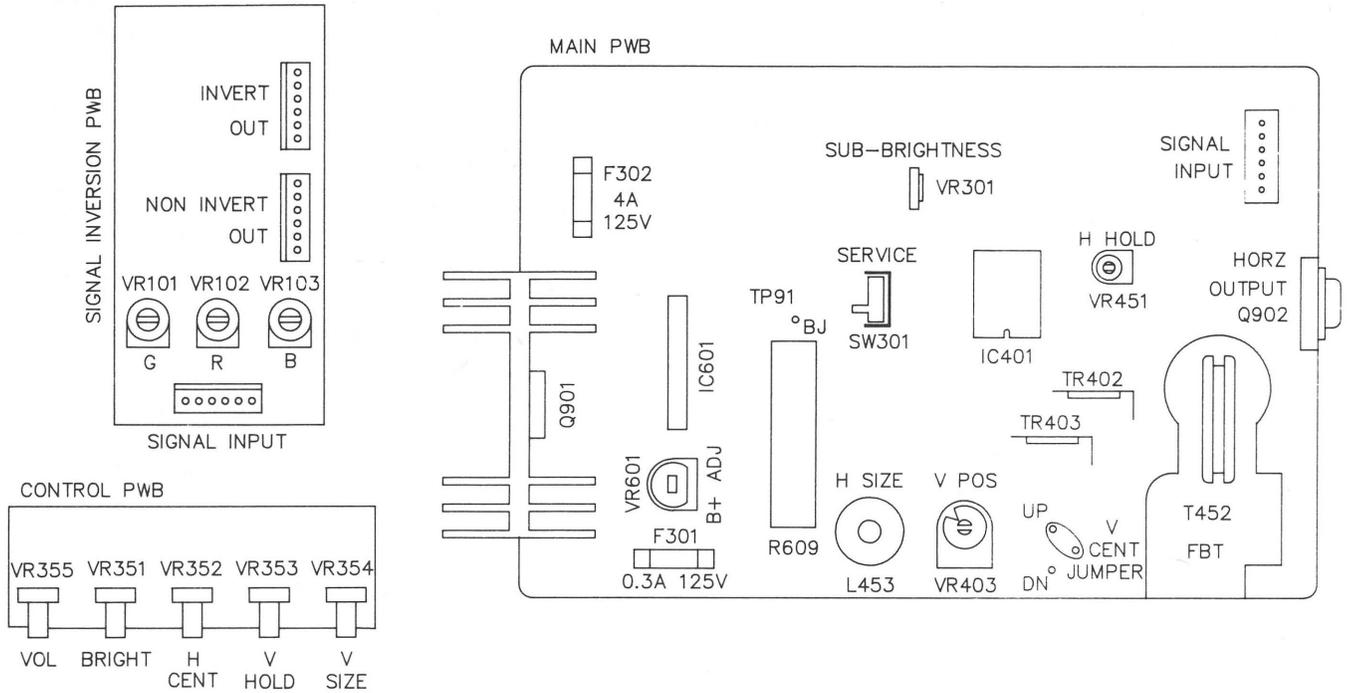
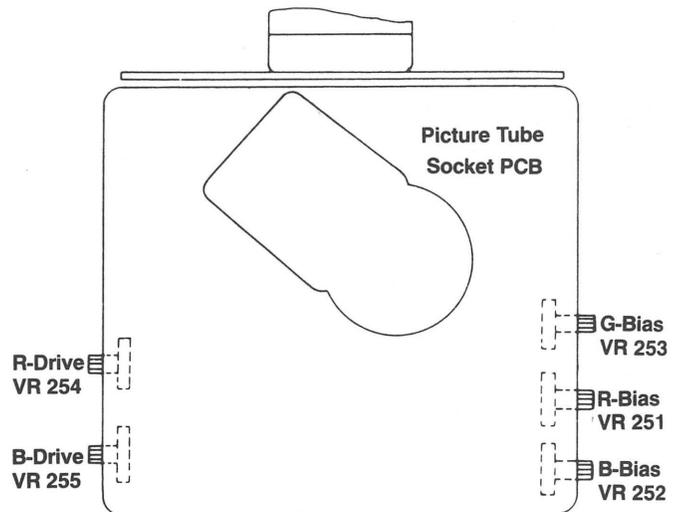

Figure 3 Adjustable Controls and Test Points on Main Chassis PCB, Control PCB, and Signal Inversion PCB
Figure 5 Adjustable Controls on Picture Tube Socket PCB
The BRIGHT control VR351 should be adjusted if the picture image is either too bright or too dark. See Figure 3 for the location of the Brightness control on the Control Printed-Circuit Board (PCB).
color or brightness, and whenever the purity and convergence is adjusted. (See Figure 3 for the location of the Screen and Brightness controls and Figure 5 for the Bias and Drive controls.)
The Horizontal Centering control should be adjusted if the picture is not centered on the screen, as indicated by a black area at either the left or the right edge. Figure 3 shows the location of the H-CENT control VR352 on the Control PCB. Adjust this control until a normal screen image is obtained.
The Vertical Hold control should be adjusted if the picture drifts straight up or down on the screen. Figure 3 shows the
The Vertical Size control should be adjusted if the screen image is either not filling the screen vertically, or if it is overscanning the screen vertically. Figure 3 shows the location of V-SIZE control VR354 on the Control PCB.
The Horizontal Width coil should be adjusted if the screen image is either too wide or narrow. Figure 3 shows the location of HORIZ WIDTH coil L453 on the Main Chassis PCB.
The Focus control should be adjusted if the screen image is not sanyoly defined. The Focus control is attached to the top of the horizontal-output transformer as shown in Figure 3. Turn this control until you get optimum screen sanyones.
The Horizontal Hold control should be adjusted if the picture is drifting sideways across the screen. Figure 3 shows the location of H-HOLD control VR451 on the Main Chassis PCB. Adjust this control until the black lines no longer slant downward or upward and you get a normal screen image.
- c. Adjust the Screen control for a dimly-lighted screen. This control is attached to the horizontal-output transformer as shown in Figure 3.
- a. Turn off the green and blue guns of the CRT by rotating the G-BIAS VR253 and B-BIAS VR252 controls to the fully counterclockwise position. (See Figure 5 for the location of the Bias adjustments.)